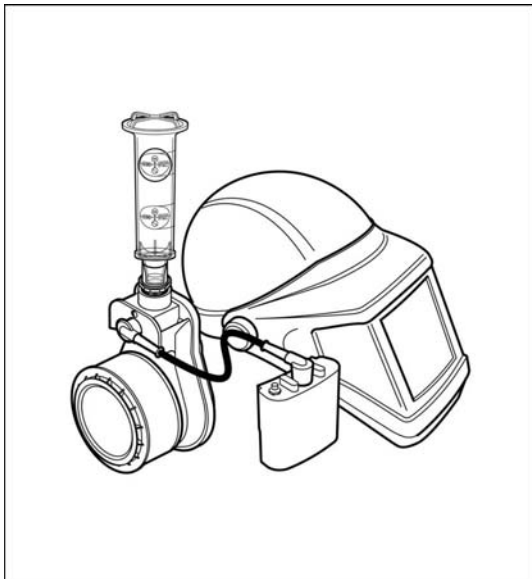

Fig: 9
- a. L-181 adapter – insert into the vinyl connector (Fig. 9) and hold vertically